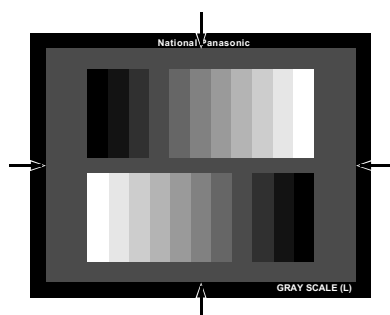

Fig. 1-1
- Logarithmic Gray Scale Chart (Part Number: YWV2310RB99) as shown Fig. 1-1.